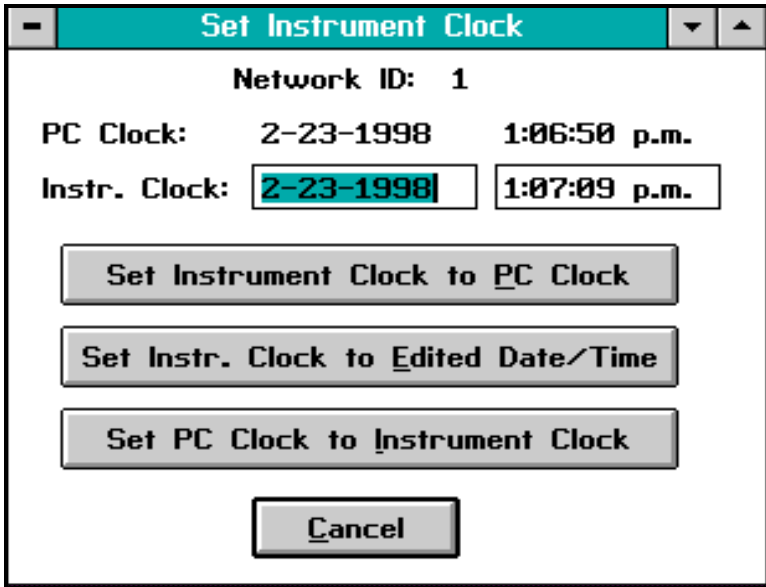

Figure 5-3: PC/Instrument Clock Setting
1. To set the clock, select the **Set Instrument/PC Clock** command (**ALT+S** and **ALT+S**). A window similar to the one shown in Figure 5-3 below appears.